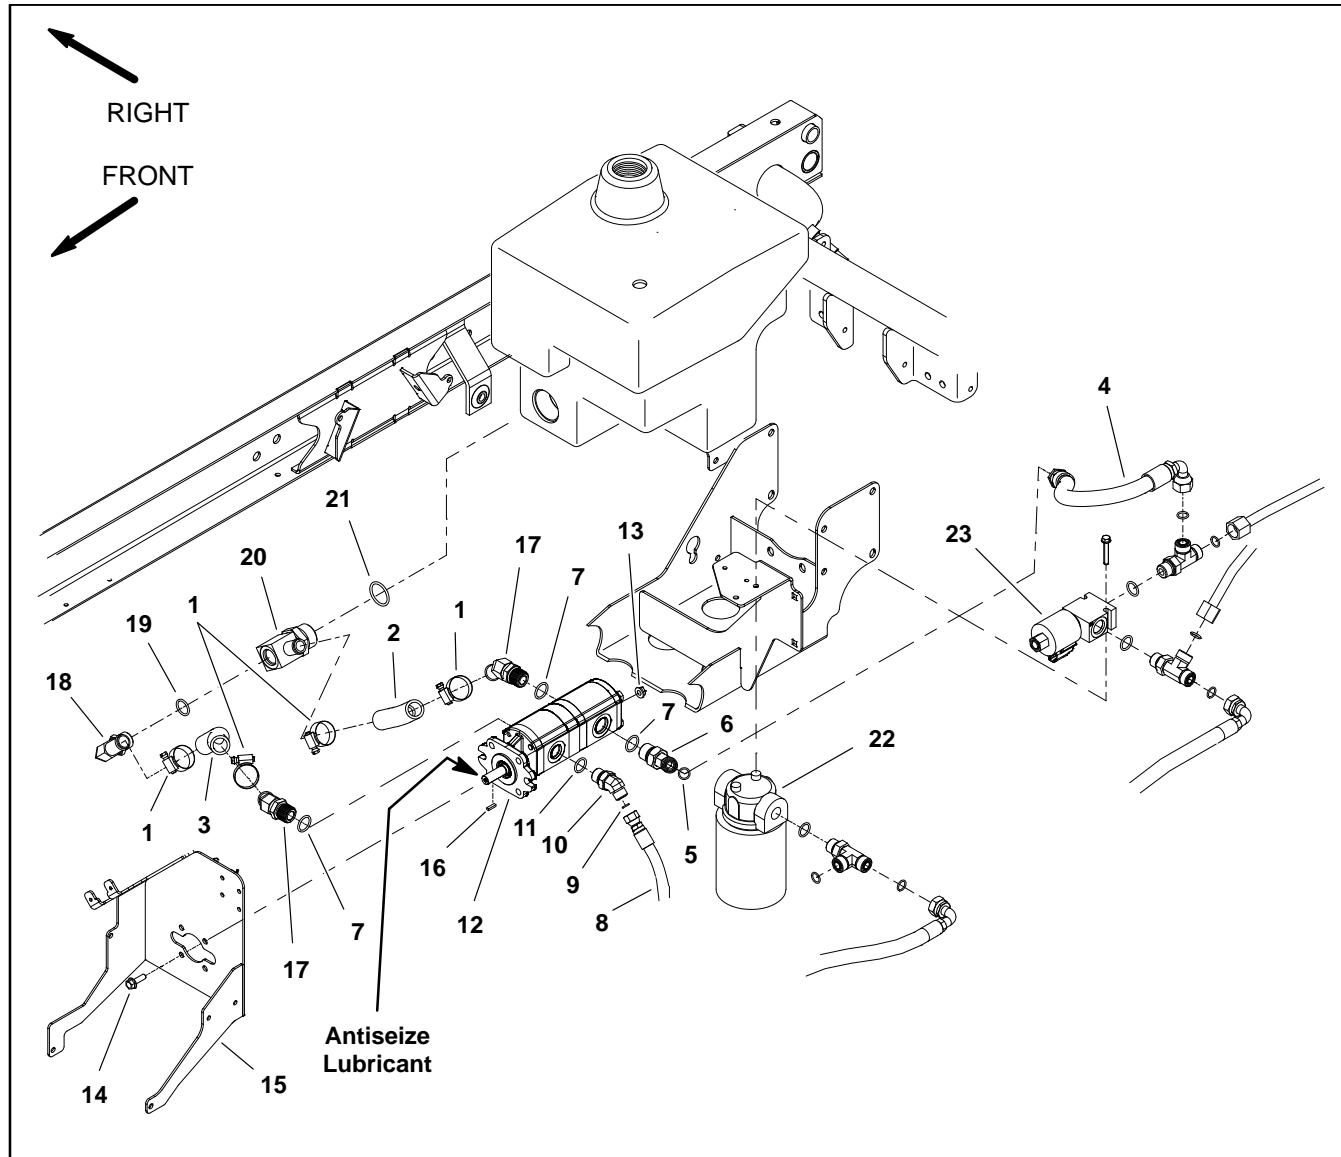

Figure 31
NOTE: Workman HDX automatic vehicles equipped with High Flow Hydraulics use a two (2) section gear pump as shown in Figure 31.
Removal (Fig. 31)
Installation (Fig. 31)